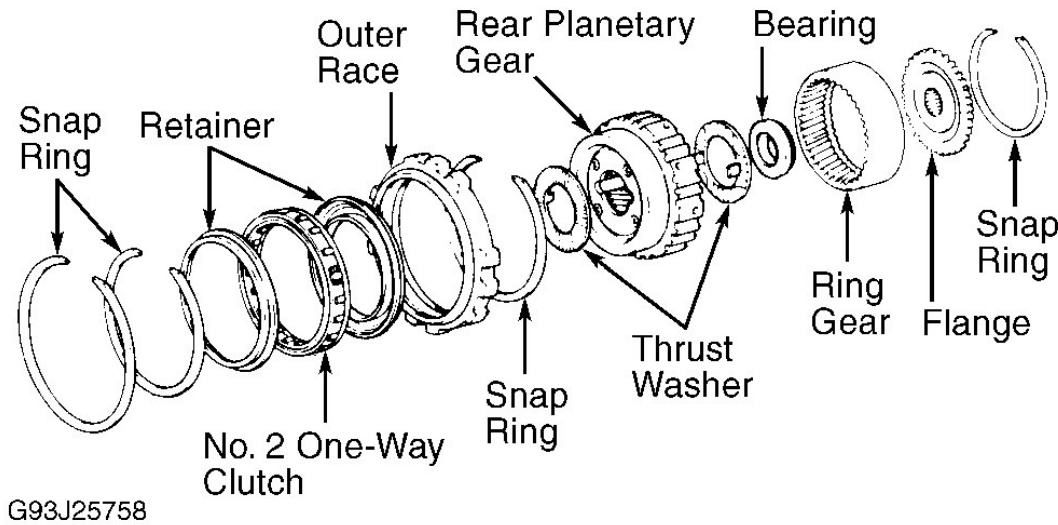

Fig. 27: Exploded View Of Rear Planetary Gear (A-540H Shown; A-540E is Similar)
3. On all models, remove snap rings and retainers from both sides. Remove No. 2 one-way clutch from outer race. See **Fig. 27**.